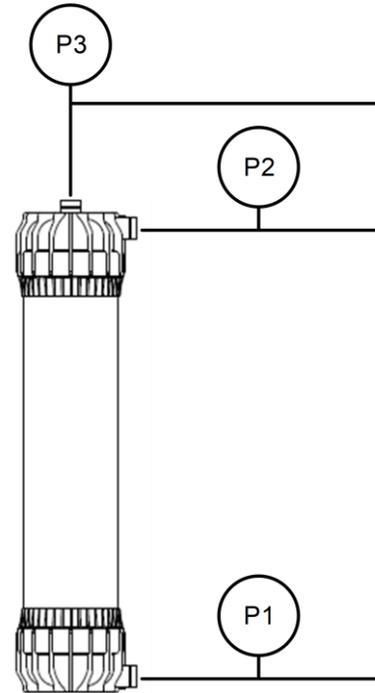

Figure 4. This diagram shows the three different points on the module where pressure is measured.
The efficacy of the chemical cleaning is determined by comparing the clean water flux values before after chemical cleaning (see Figure 4).
- P1: Module inlet pressure (refer to Figure 4)